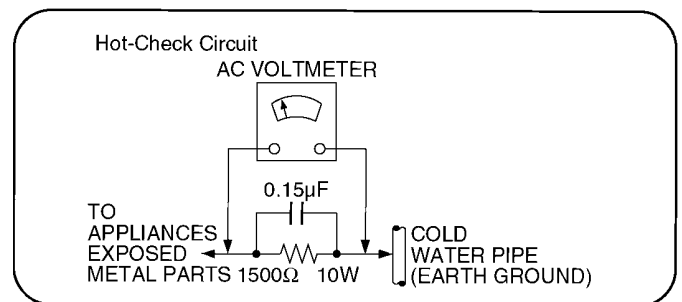

Figure 1
1.1.2. Leakage current hot check (See Figure 1.)
2. Connect a $1.5k\Omega$, 10 watts resistor, in parallel with a $0.15\mu F$ capacitors, between each exposed metallic part on the set and a good earth ground such as a water pipe, as shown in Figure 1.